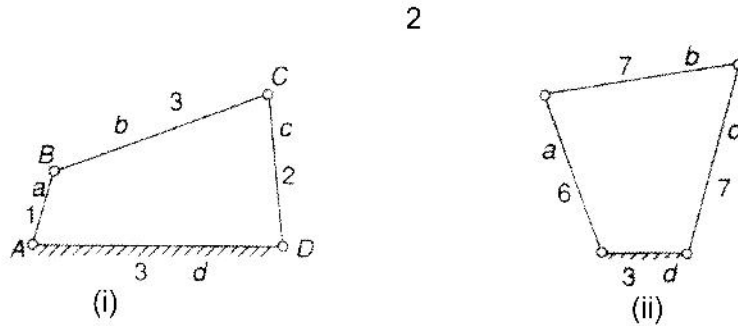

Figure 3
- b) Find the maximum and minimum transmission angles for the mechanisms shown in the figure 3. The values indicate the dimensions in standard units of length.